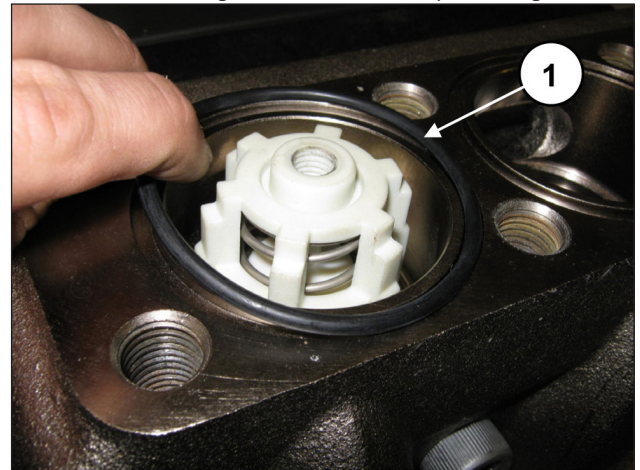

Fig. 158
Insert the front O-ring in the outlet valves (pos. ①, Fig. 158).